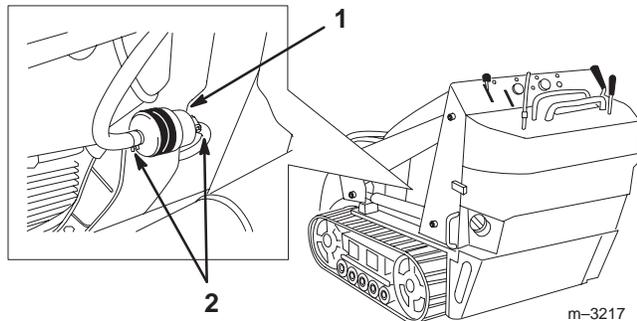

Figure 37
4. Clamp the fuel lines on both sides of the fuel filter (Fig. 37).
5. Squeeze the ends of the hose clamps together and slide them away from the filter (Fig. 37).